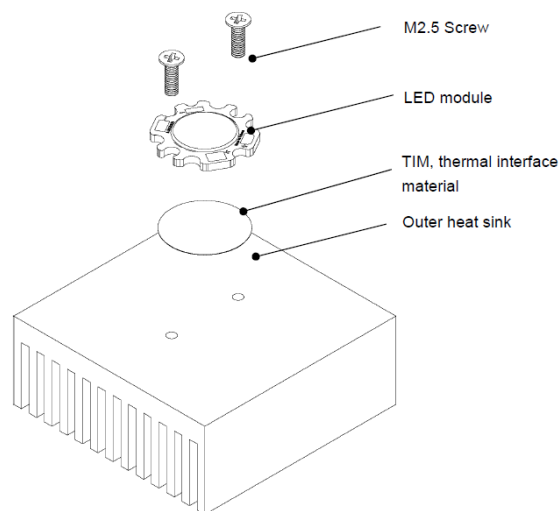

Figure 1
4. Recommended Assembly Method is shown in Figure 1, LED 05W series products must be used in conjunction with heat-sinking devices and a thin layer of thermal grease should be applied to the bottom surface of the LED source